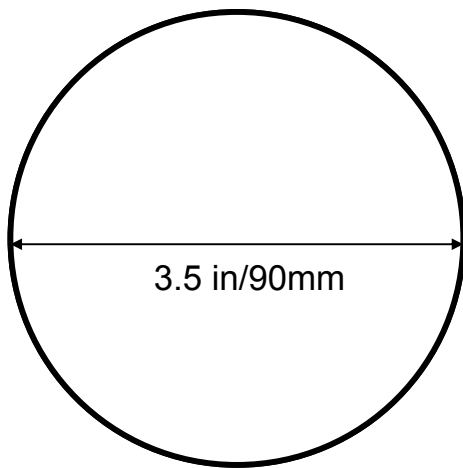

Figure 1. Drill Instruction
2. Locate a position to drill a hole with the dimensions as shown in Fig. 1